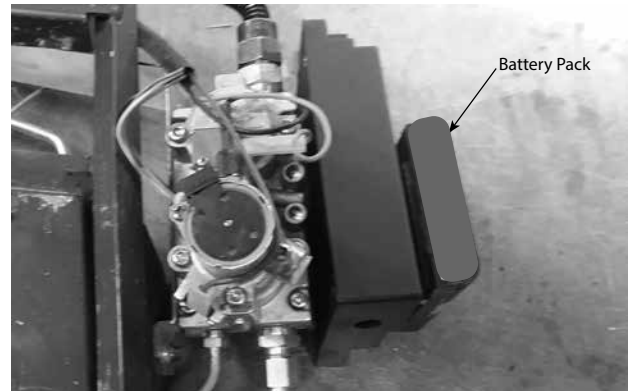

Figure 5.1 Battery Pack Location
- Install 4 AA cell batteries into the battery pack before use. See Figure 5.1.